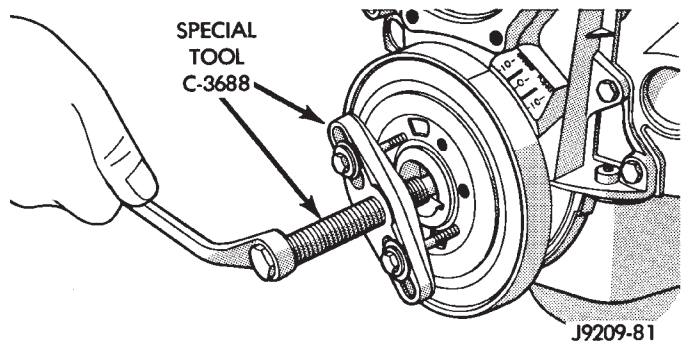

Fig. 21 Vibration Damper Assembly
- (1) Disconnect the negative cable from the battery.
- (2) Remove fan shroud retainer bolts and set shroud back over engine.
- (3) Remove the cooling system fan.
- (4) Remove the serpentine belt (refer to Group 7, Cooling System).
- (5) Remove the vibration damper pulley.
- (6) Remove vibration damper bolt and washer from end of crankshaft.
- (7) Install bar and screw from Puller Tool Set C-3688. Install 2 bolts with washers through the puller tool and into the vibration damper (Fig. 21).